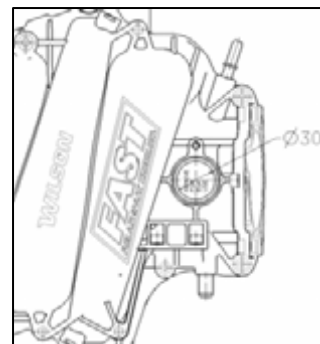

Fig.12
- 4) For EGR use (1998-2002 Camaro/Firebird) you must open the hole in your new manifold. Use a large diameter drill and Dremel type tool to modify polymer (30mm hole). Be careful not to damage the upper diameter where the o-ring seals (fig.12).